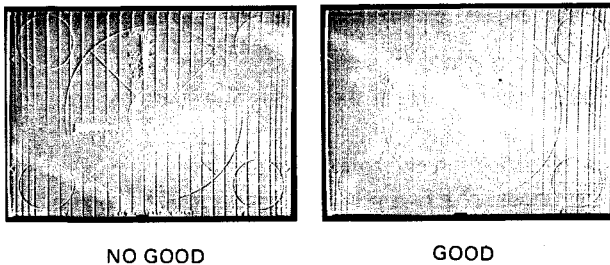

Fig. 5-4-22
- Adjust VR11 (R SKEW) so that the R vertical (black) lines of registration chart are parallel with the G vertical (white) lines. (Fig. 5-4-22) The parallel can be confirmed by turning VR15 (R H-CENTERING).
- o Adjust VR10 (B SKEW) so that the B vertical (black) lines of registration chart are parallel with the G vertical (white) lines. (Fig. 5-4-22) The parallel can be confirmed by turning VR9 (B H-CENTERING).